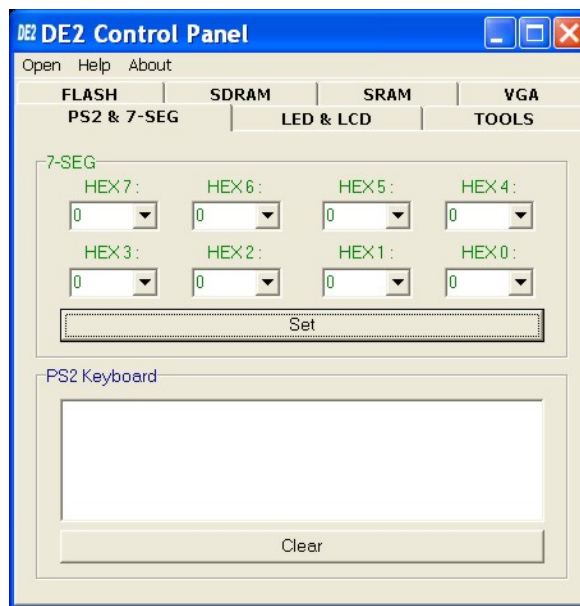

Figure 3.2. The DE2 Control Panel.
5. Start the executable *DE2\_control\_panel.exe* on the host computer. The Control Panel user interface shown in Figure 3.2 will appear.
In the window shown in Figure 3.2, the values to be displayed by the 7-segment displays (which are named *HEX7-0*) can be entered into the corresponding boxes and displayed by pressing the **Set** button. A keyboard connected to the PS/2 port can be used to type text that will be displayed on the LCD display.